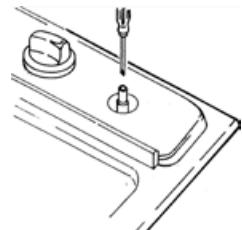

Fig. 4
3. Adjust the flame size using a screwdriver (Fig. 4).